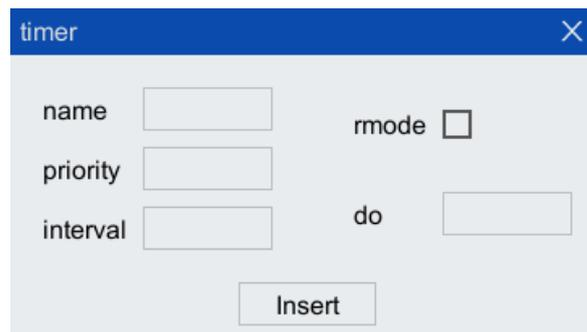

Figure 5-35 "Timer" instruction configuration interface
Step1. Click "Insert Cmd> Interrupt Trigger> timer" option in the toolbar of the program editor to pop up "timer" instruction interface, as shown in Figure 5-35.